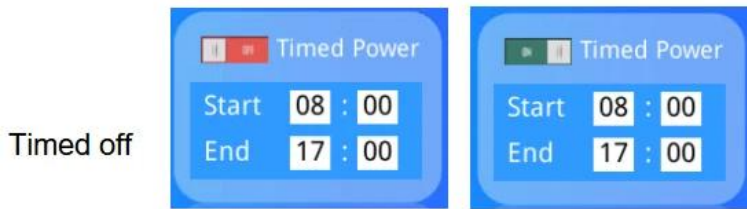

Figure 12
6.2 Click the settings button to enter the settings interface, as shown in Figure 12.